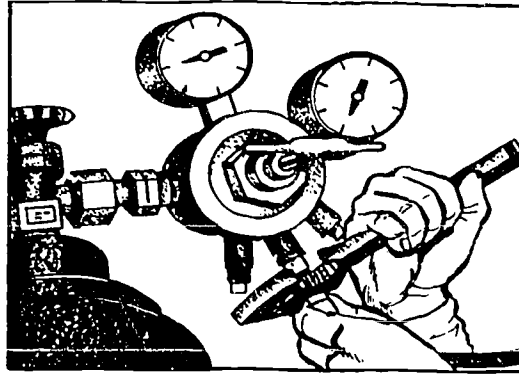

Figure 5. Attaching the Hose
1. Connect the oxygen hose to the oxygen regulator and tighten the connection firmly with a wrench. Oxygen regulators, check valves and hoses have right-hand threads. Fuel gas regulators, check valves and hoses have left-hand threads (see figure 5).